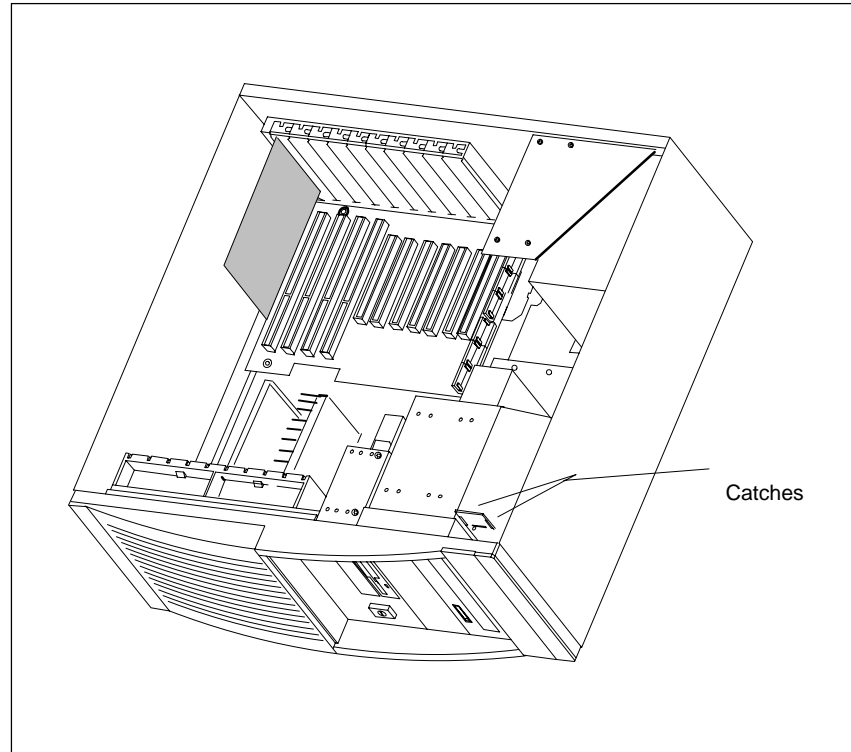

Figure 1-10 Removing the Display Board
- Then prise the display board out of the catches (see Figure 1-10).